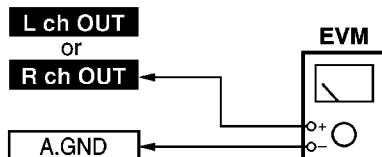

Fig. 13-1.
1. Connect the measuring instrument as shown in Fig. 13-1.